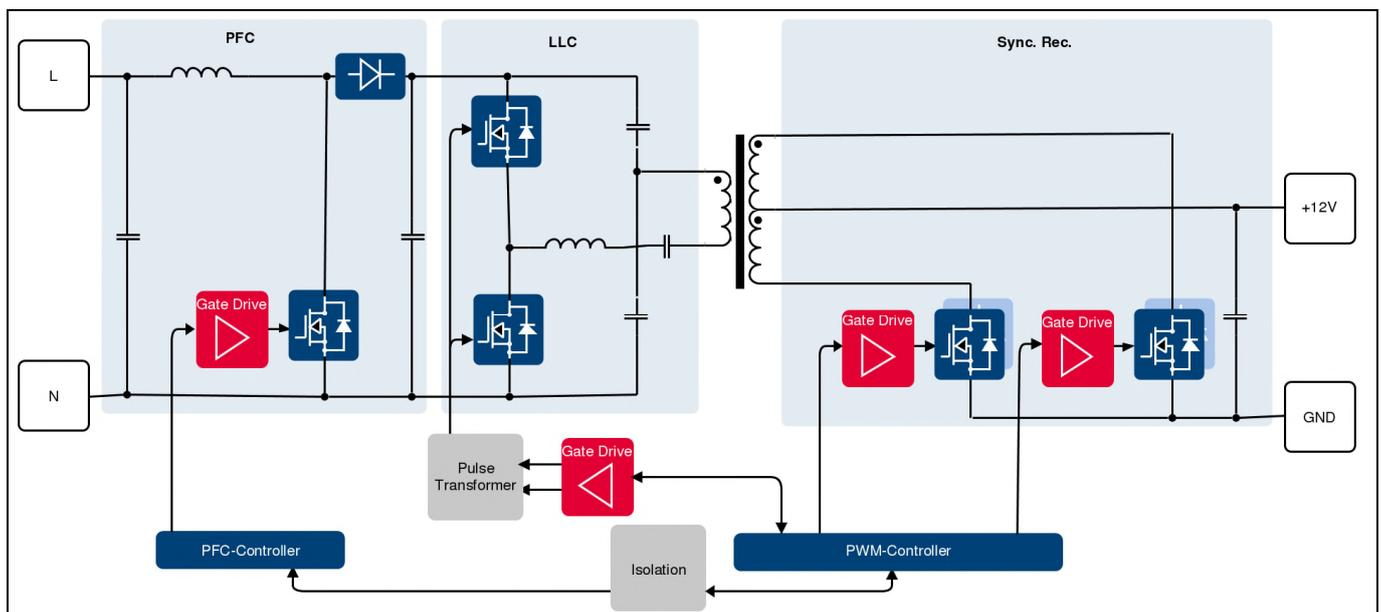
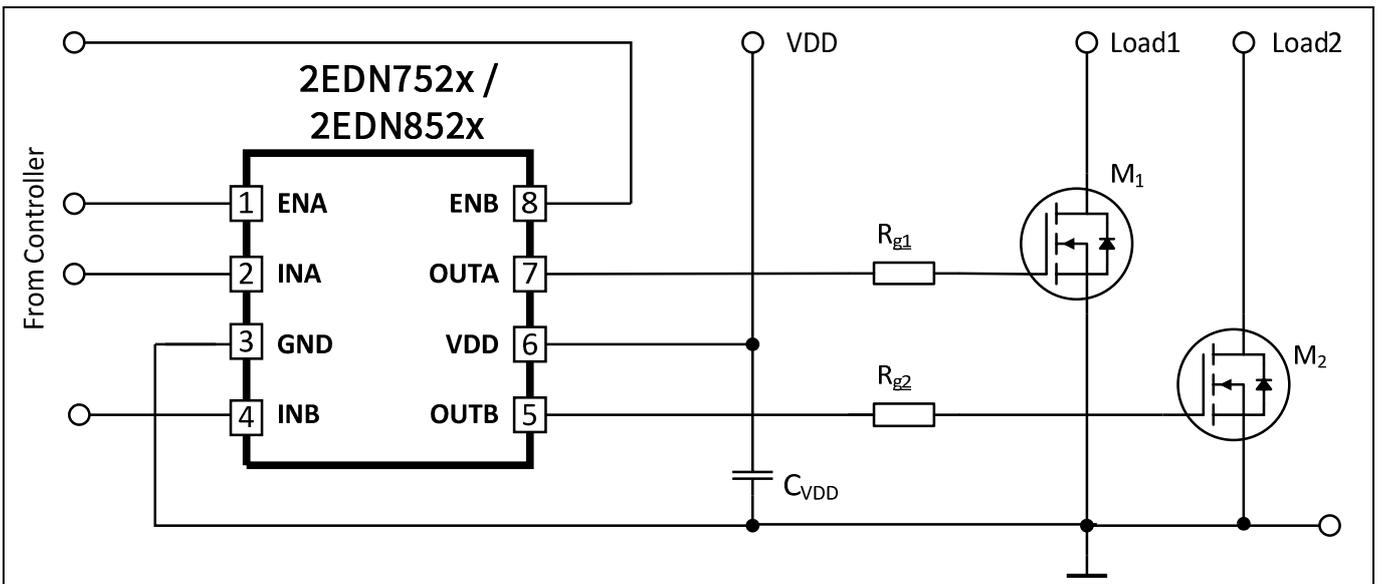

Figure 1 Typical server power supply with PFC, main and synchronous rectification stage
Figure 2 2EDN MOSFET drivers for high-speed switching with a robust and low  $R_{DS(on)}$  MOS-only output stage
As an example for the synchronous rectifier (SR) in Figure 1, the 2EDN driver is configured into two separate channels (see Figure 2). Each channel is connected to a PWM controller source on the input side. INA and INB carry the PWM signals. ENA and ENB are the gating signals that can be used for safety purposes. Each driver output (OUTA and OUTB) control a MOSFET  $M_1$  and  $M_2$  through a gate resistor  $R_{g1}$  and  $R_{g2}$ . The capacitor  $C_{VDD}$  supports the IC during the fast transitions and keeps the supporting power in the safe operation voltage levels.